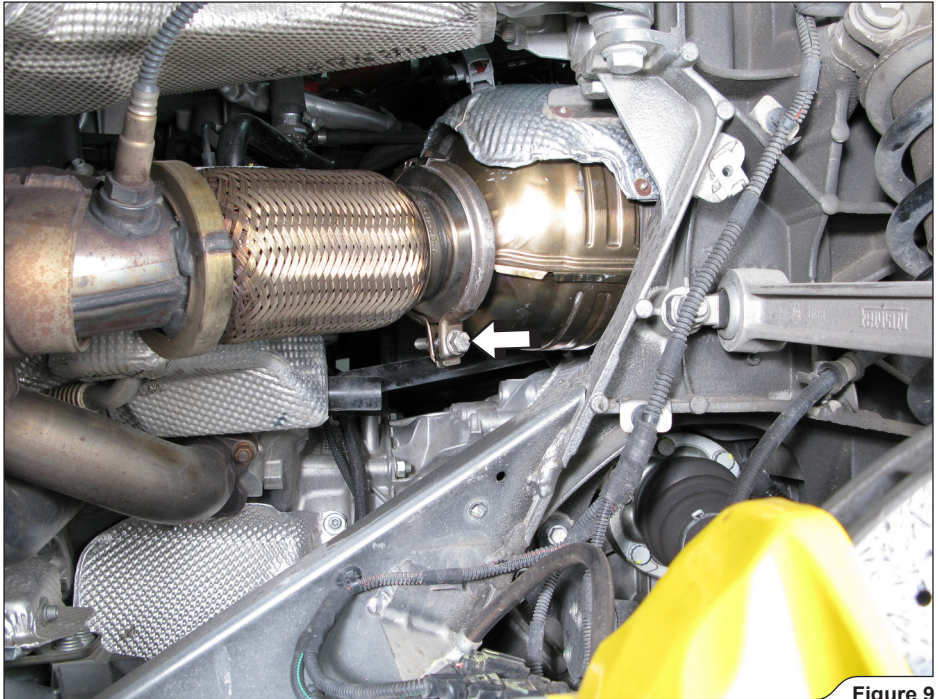

Figure 9
8. **For Slip-On only:** untighten the marked spherical clamps on both sides of the engine (**Figure 9**).
**For optional Link Pipes only:** unscrew and remove the marked spherical clamps on both sides of the engine (**Figure 9**).